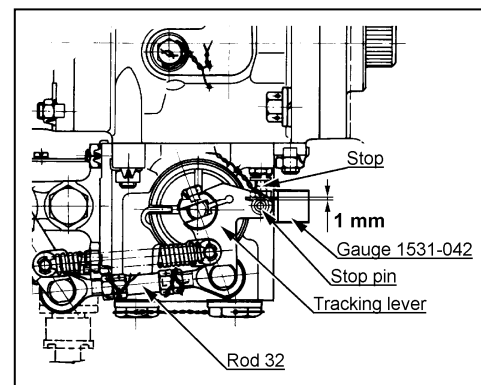

FIGURE 12-12
- (4) Pull the propeller, using blade part as close as possible to blade shank, in flight direction to eliminate axial play and keep this arrangement during adjustment.
- (5) Insert gage 1531-042 (engine toolkit) between stop and stop pin (figure 12-12). When the clearance between the stop and the stop pin is smaller, shorten rod 32 by turning.